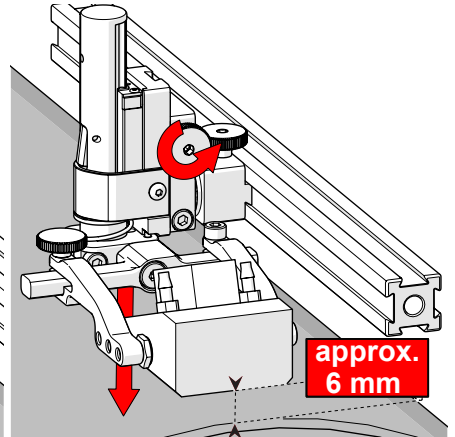

Fig. 170 - Lower toward scan surface
3. Tighten the vertical adjustment knob (Fig. 170).